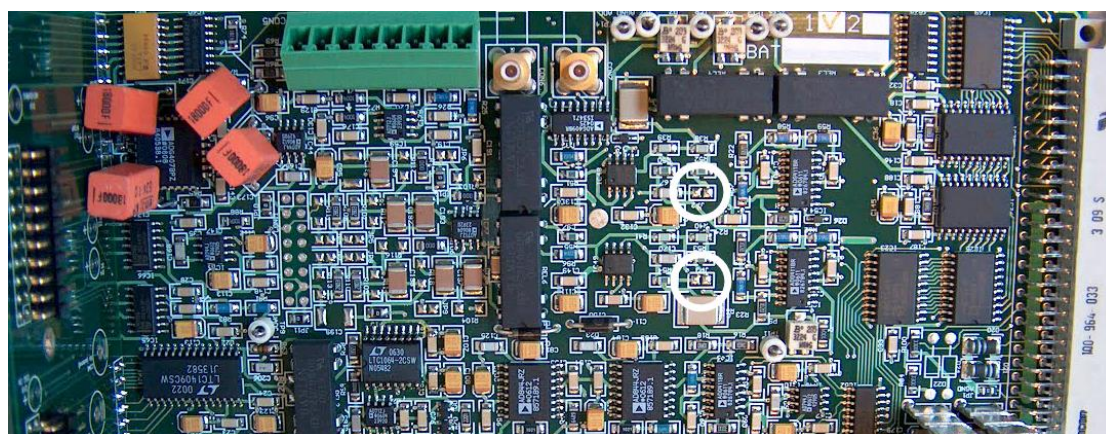

Figure 44 – The FRA2 Analog board (JP2 and JP3 are highlighted)
1. ESD safety kit (see Figure 44)
The modification requires soldering **JP2** and **JP3** of the analog board of the FRA2 module. Figure 44 shows a picture of the Analog board. The two jumpers are highlighted.